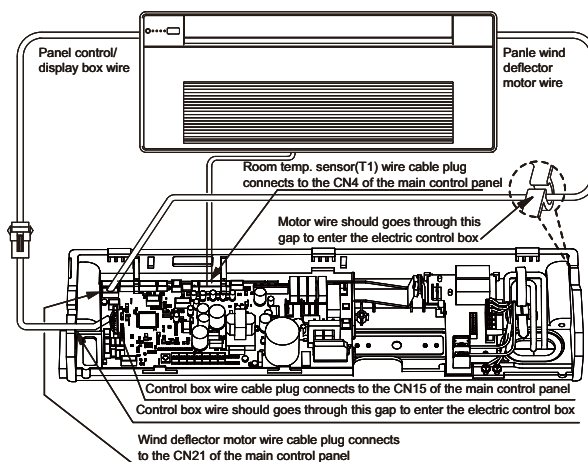

Fig. 22 —Electrical Wiring for Panel Assembly (005-012)
- b. Connect the terminals of the control display of the panel assembly, the terminals of the motor of the fan guide, and room temp.sensor (T1) wire terminals to the main controller board of the unit as shown in Figs. 22 and 23.